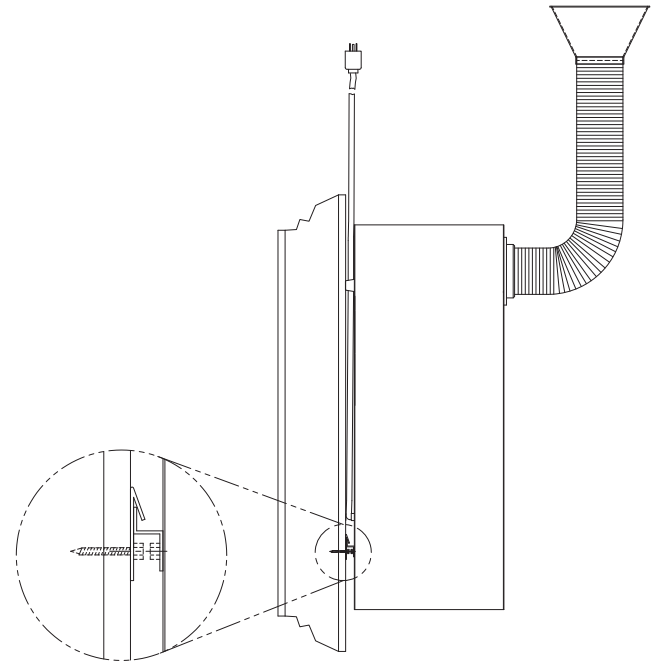

Fig. 4
### B. Vertical Wall Mount Assembly (Fig. 4)
4. Once the wall bracket and unit bracket are in place, lift the SC150 and mount to the wall bracket (Fig. 4).